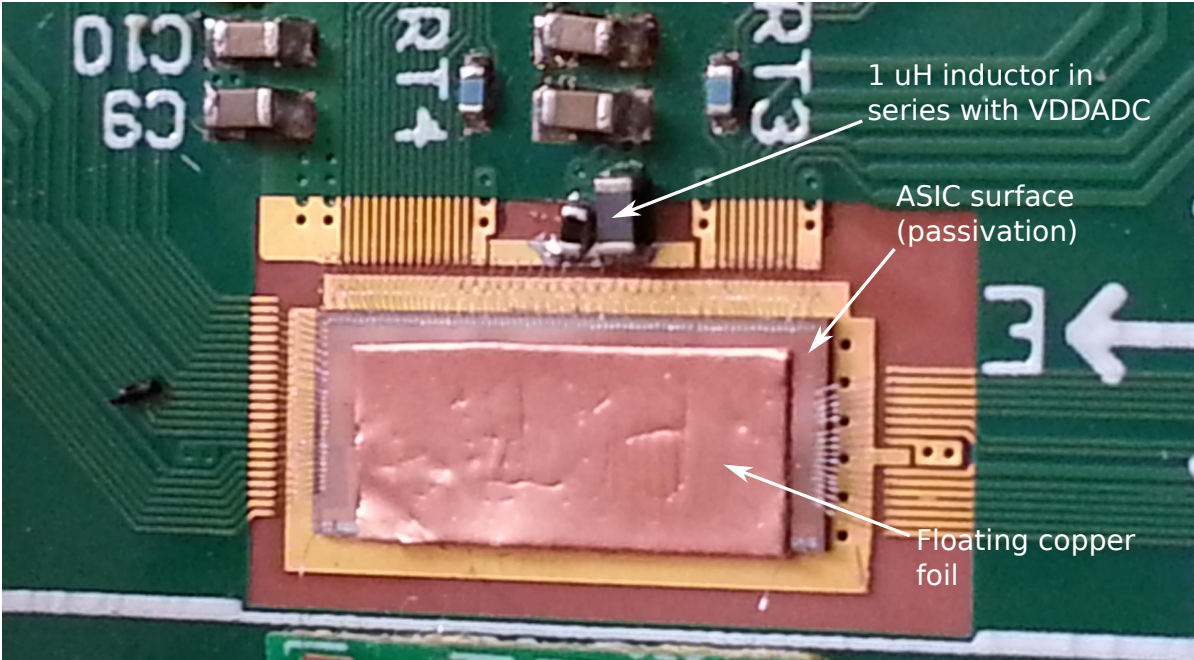

Figure 549: Copper foil on ASIC B0A2 and 1 μ H inductor assembly
- Floating copper foil glued directly on passivation on top of the ASIC (see figure 549);